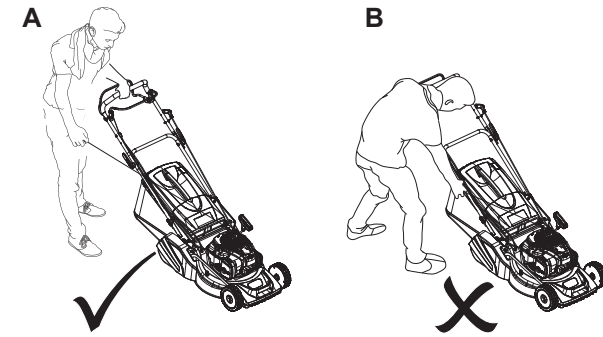

Fig. 21
**Warning!** The starting position should be as described in the instruction manual. Fig. 21 A illustrates the defined starting position. The operator should start the engine behind the upper handle bar (1). Do not start the engine while standing on the side of the product as shown on Fig. 21 B.